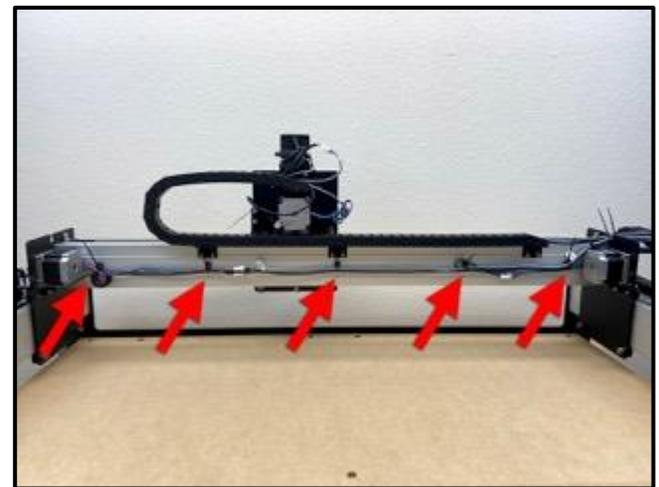

Figure 9-6
2. Use five (5) cable ties to secure the cables to the five (5) cable tie mounts along the back of the X-rail. See *Figure 9-6*. The cable tie mounts have two attachment points. For **the center cable tie mount**, use only one of the two attachment points to secure the Y-cables; the other will be used to secure the router's power cord.